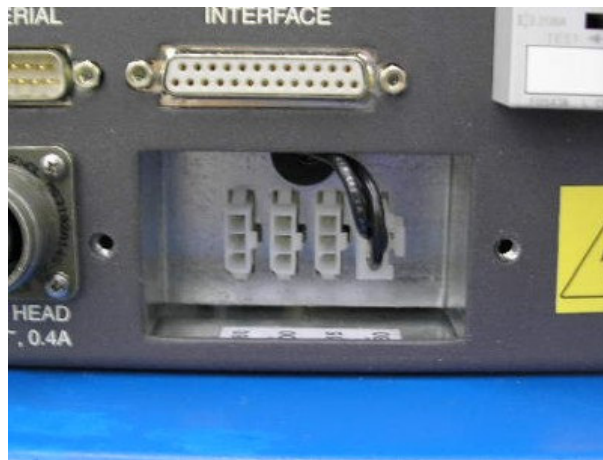

Figure 7 Voltage Selection Connectors
2. At the voltage selection access panel on the front of the compressor, remove the clear plastic cover to expose the voltage selection connectors. See Figure 7.